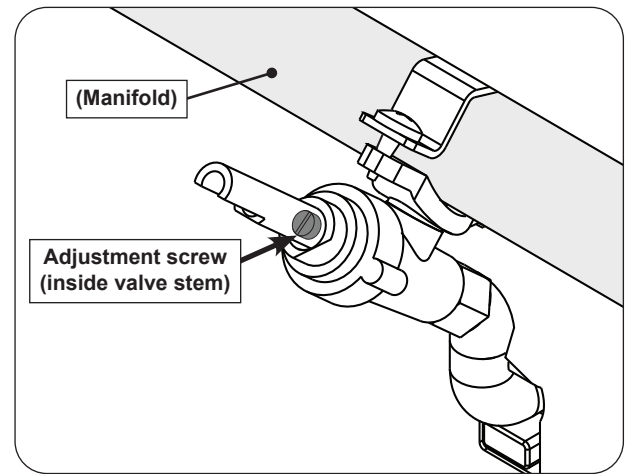

Fig. 41-1 Valve adjustment screw location
4. Locate the FLATHEAD adjustment screw found inside the valve stem (see Fig. 41-1).